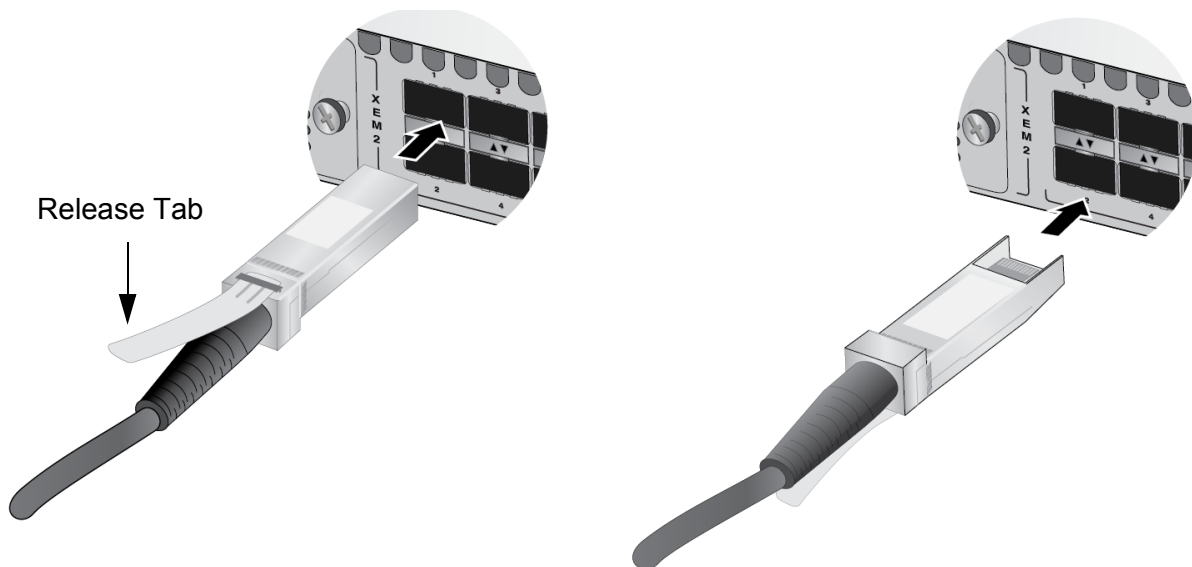

Figure 133. Installing SP10TW Direct Attach Cables
- ❑ Figure 133 shows the orientations for SP10TW direct attach cables installed in base ports 1 to 24 and XEM2-8XSTm and XEM2-12XS Cards.